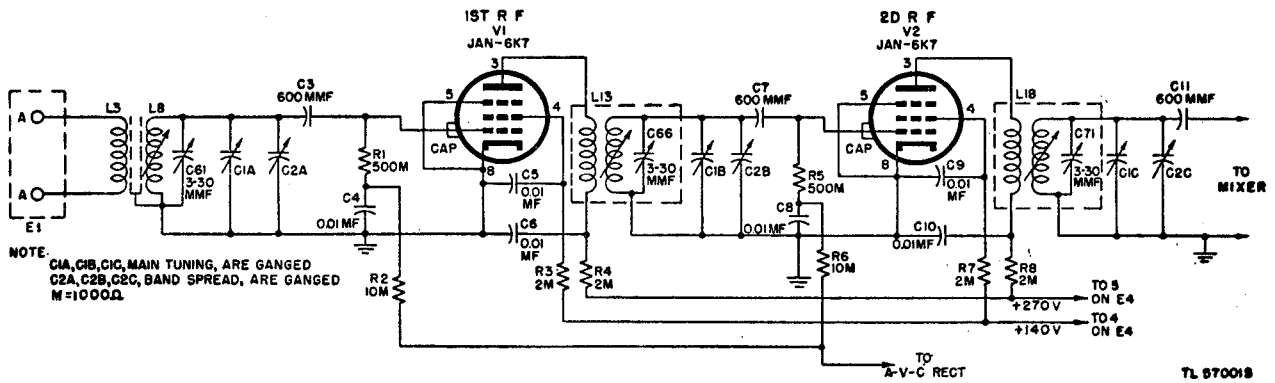
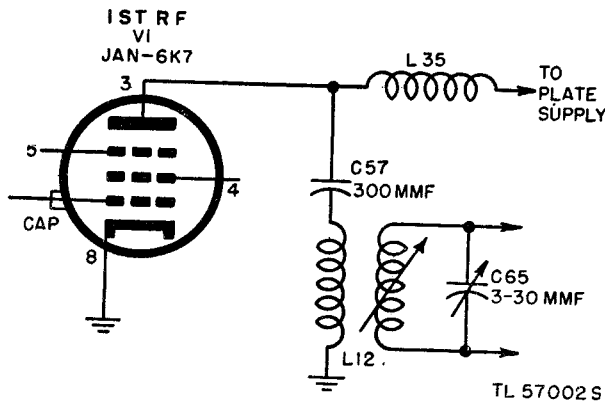

Figure 25. Radio Receiver BC-779-B, functional diagram of r-f amplifier.
Figure 26. Radio Receiver BC-794-B, functional diagram of 1st r-f stage.
#### 59. R-F Amplifier (fig. 25)
For simplicity, only the circuits for the 2.5- to 5.0-mc band are shown and the band switching arrangement is omitted from figure 25. The band switching circuits are discussed in paragraph 68.
c. DIFFERENCES IN R-F CIRCUITS. (1) *Plate supply.* In Radio Receivers BC-779-(\*), BC-1004-(\*), and R-129/U, plate voltage is series-fed through resistance-capacitance (R-C) decoupling circuits and the r-f transformer primaries (fig. 25). In Radio Receiver BC-794-(\*), plate voltage is shunt-fed by means of choke L35 and 300-mmF capacitor C57 in the first stage, and choke L36 and 300-mmF capacitor C58 in the second stage (figs. 26 and 57). This method was chosen to keep plate voltage off the tuned impedance interstage coupling circuits L49, C99, and L50, C100, of the 20-40-mc band. Decoupling filters R4, C6, and R8, C10, are not included.